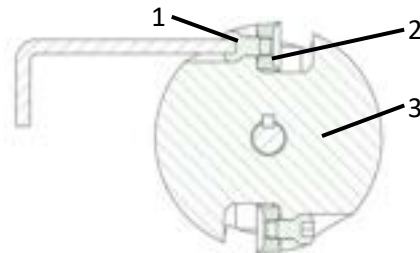

Fig. 18: Replacing knives
- > Loosen the knife screws (1 - Fig. 18) on the milling head (3 - Fig. 18) with a Allen key.
- > Replace the circular knives (2 - Fig. 18) or turn them by 180°.